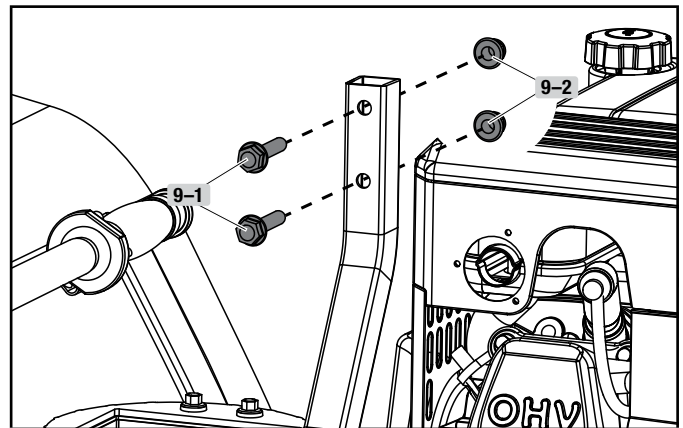

Figure 9
1. Remove the bolts (9-1) and nuts (9-2) from the top of the discharge support (Fig. 9). Set aside for next step.